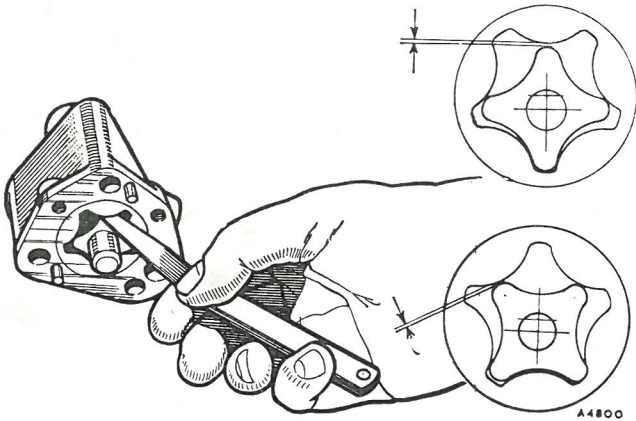

Fig. A.17
- (1) Install the rotors in the pump body, place a straight-edge across the joint face of the pump body, and measure the clearance between the top face of the rotors and the under side of the straight-edge. The clearance should not exceed .005 in. (.127 mm.). In cases where the clearance is excessive this may be remedied by removing the two cover locating dowels and carefully lapping the joint face of the pump body.
- (2) Check the diametrical clearance between the outer rotor and the rotor pocket in the pump body. If this exceeds .010 in. (.254 mm.) and cannot be remedied by the renewal of either the pump body or the rotors, then the pump assembly should be renewed.
- (3) With the rotors installed in the pump body measure the clearance between the rotor lobes when they are in the positions shown in Fig. A.17. If the clearance is in excess of .006 in. (.152 mm.) the rotors must be renewed.